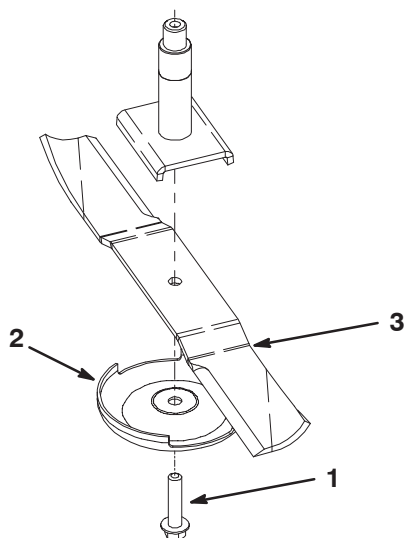

Figure 3
7. Install the blades, anti-scalp cups, and blade bolts (Fig. 3). Tighten the blade bolts to 85–110 ft.-lb. (115–149 N·m).
9. Install the blades, anti-scalp cups, and blade bolts (Fig. 3). Tighten the blade bolts to 85–110 ft.-lb. (115–149 N·m).